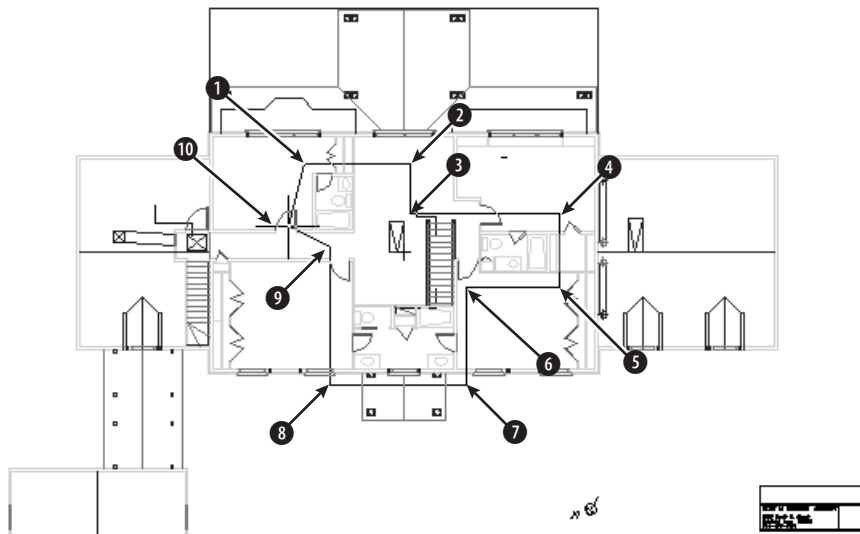

Figure 19-11: Picking a polygonal boundary to clip an xref
5. Open `ab19-02.dwg` from your AutoCAD Bible folder. This drawing has an attached xref of a house plan and a nested xref of a title block, as shown in Figure 19-11.
Select objects: Pick anywhere on the xref in Figure 19-11.
Specify first point: Pick ❶ in Figure 19-11. It might help to turn off OSNAP if it is on.